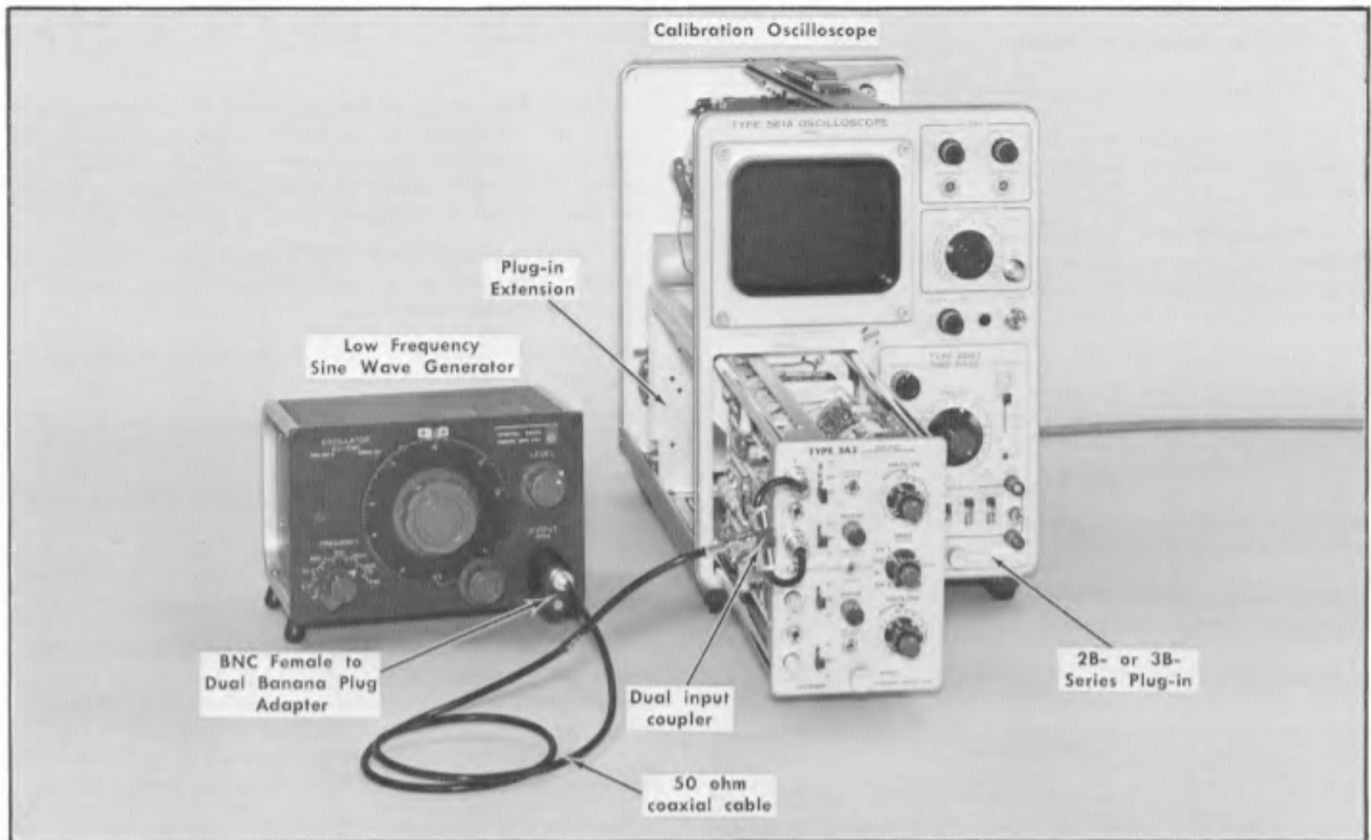

Fig. 6-8. Initial test equipment setup for steps 15 through 19.
- a. Test equipment setup is shown in Fig. 6-8.